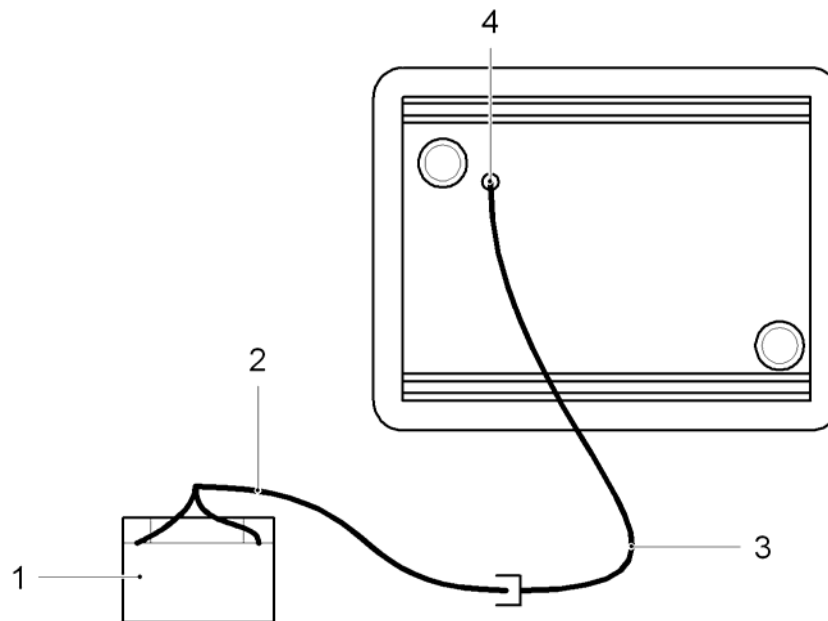

Figure 7-11 Installation independently of the mains inside (battery operation)
- (1) Insert the optional DFS 600 connector cable (Figure 7-11 Item 3) in the connector cable (Figure 7-11 Item 2) of the battery (Figure 7-11 Item 1).
- (2) Insert the M12 plug of the DFS 600 connector cable into the connection socket (Figure 7-11 Item 4) on the back of the DFS 600 and screw it tight – the DFS 600 is now powered up.
- (3) Perform a functional test of the display with a hand movement.